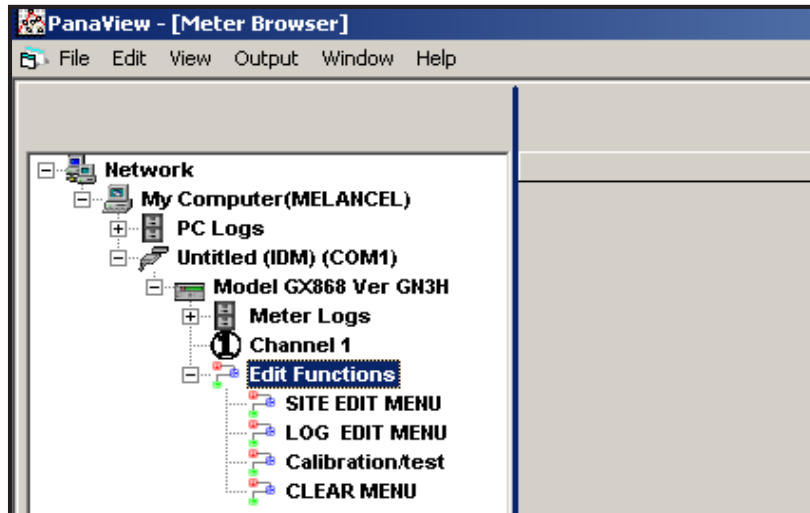

Figure 36: Meter Tree with *Edit Functions* Option
- From the meter tree, expand the *Edit Functions* option. The window now appears similar to Figure 36, with a list of available menus. The menus listed are those available on the meter.